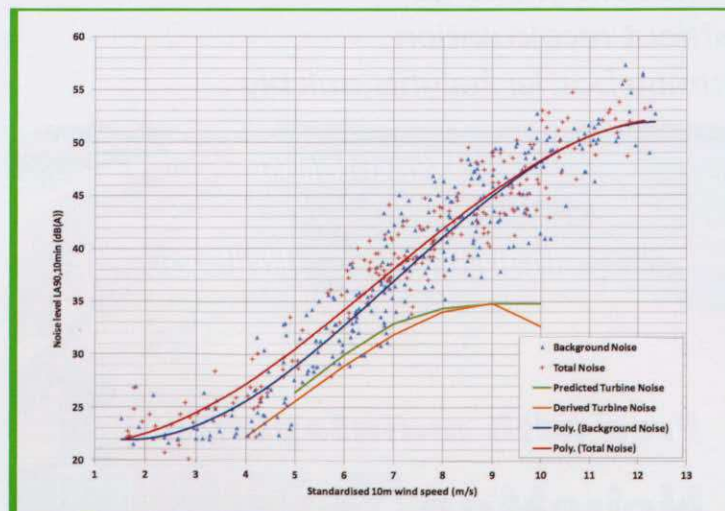

Figure 1 – Noise level variation with wind speed for a wind turbine site
Figure 1 illustrates a typical site where the 35dB(A) condition has been assessed at a suitable, representative location within the property. The site in question was found to be a low wind shear site. In red is a third order best fit polynomial of turbine plus background noise level data, while the blue best fit line represents background noise only.
In the situation illustrated by figure 1, the signal to noise ratio (between the trendlines) remains less than 2dB
Our experience is that derived turbine noise tends to follow prediction until background levels reach ~40dB(A) $L_{A90,10min}$, with results obtained at higher background noise levels tending to be far more variable. In the example given in figure 1, the developer "got lucky", because the results at wind speeds where